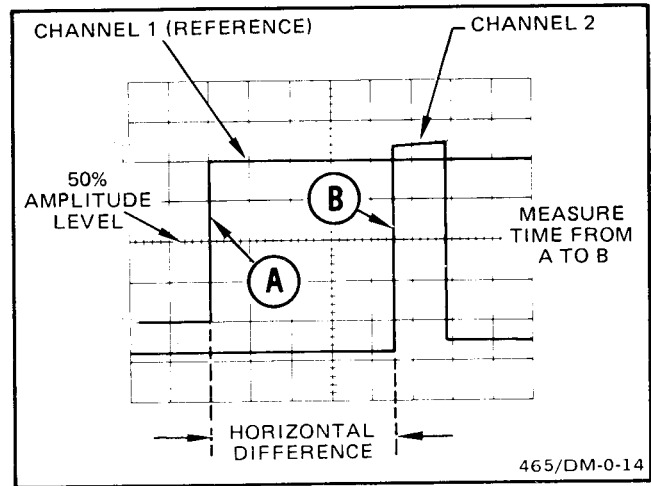

Figure 39. Time difference between two time-related pulses.
4. Press in the CH 1 and CH 2 VERT MODE push buttons. Use either CHOP (in) or ALT (out) VERT MODE switch position, depending on the frequency of the input signals. In general, CHOP is more suitable for low-frequency signals and ALT is best for high-frequency signals. Center each of the displays vertically (see Figure 39).